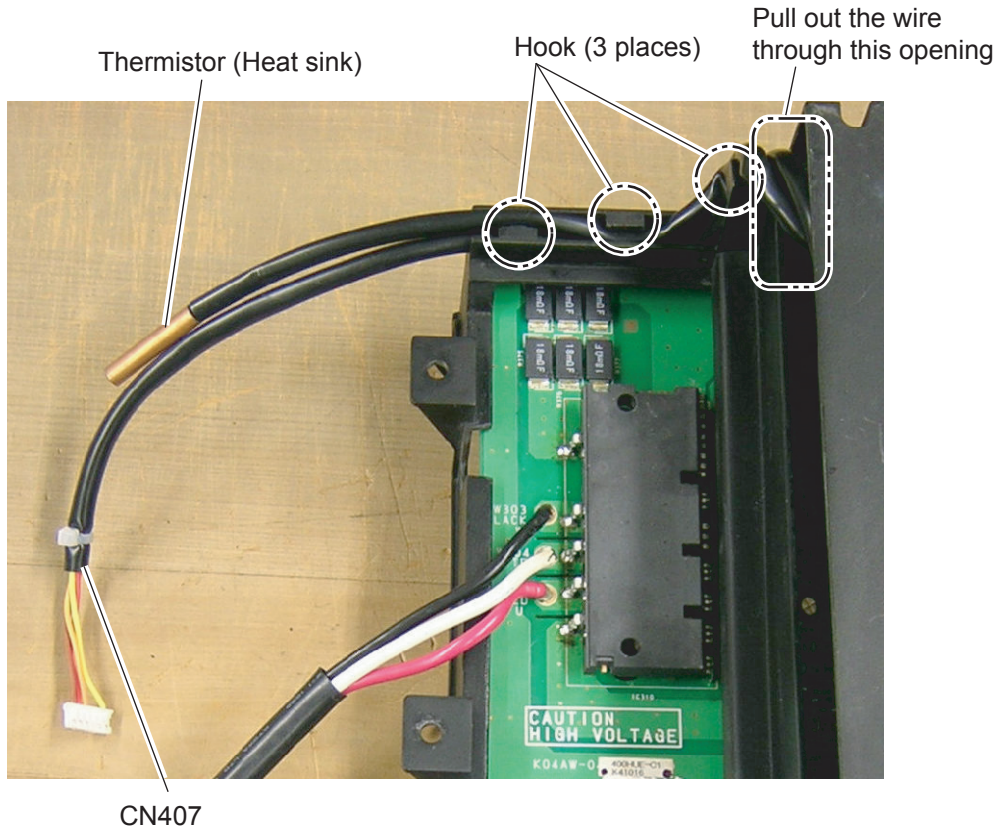

Fig. 9
- As shown in Fig.9, fix the wire to INVERTER BOX A.